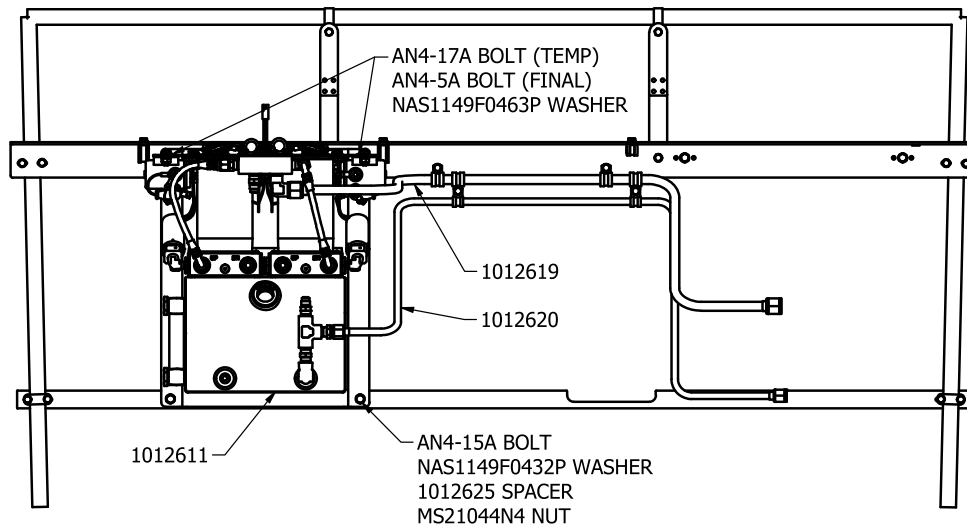

FIGURE 10
- f. Hand tight AN4-17A bolts (2) into the nut plates located on upper fuselage mount (1012618) for the hydraulic pump location. These bolts allow the hydraulic power pack assembly to hang on the mounts through the key holes in the hydraulic power pack mounting plate. Once the hydraulic power pack assembly (1012611) is hanging on the AN4-17A bolts, install spacers (1012625) between the hydraulic power pack assembly and the fuselage steering support angle (10A12357-086) and mounting hardware on the bottom of the hydraulic power pack assembly, as shown in Figure 10.